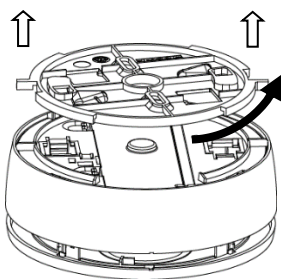

Figure 6
2. Remove the mounting bracket from the detector by rotating the mounting bracket counterclockwise and then lifting it (see Figure 6).